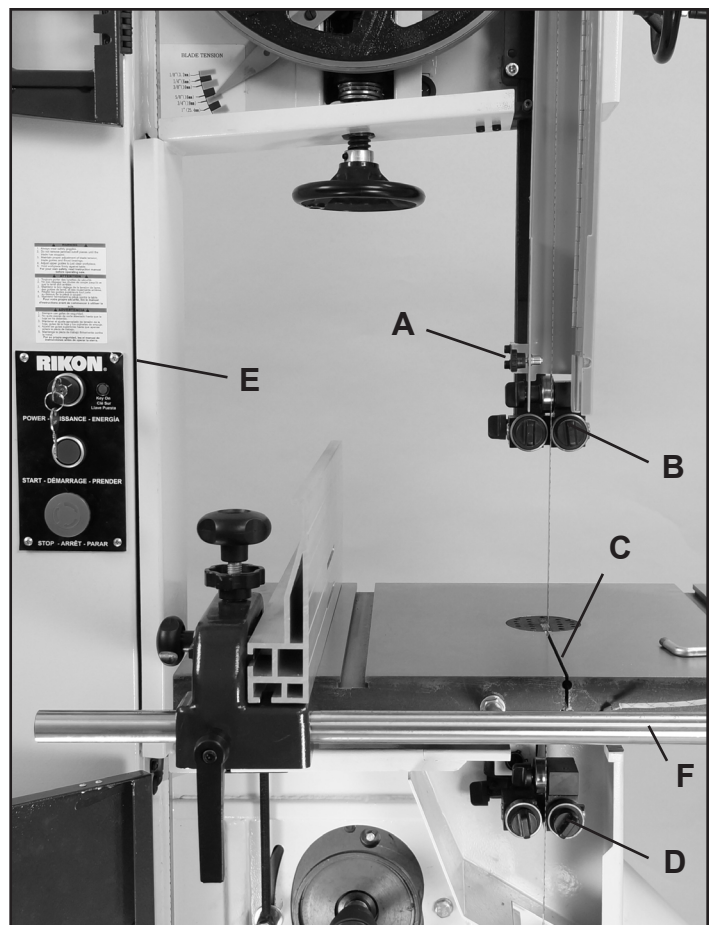

FIGURE 21
3. Open the Hinged Door (#11C) on the blade guard by loosening the Locking Handle (#14C). Fig. 21, A.
4. Remove the saw blade from the top wheel then feed it through the upper blade guides (B), slot in the table (C), lower blade guides & lower blade guard (D), out of the slot in the column of the machine (E), off of the bottom wheel, and then around the front rail (F).